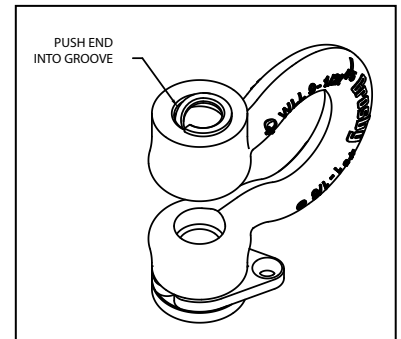

Figure 3
3. Rest the new retaining ring on the shackle ear over the bolt hole. Verify the chamfer on the ID of the retaining ring is face up. Push up. Push one end of the retaining ring into the bolt hole and seat into the groove. (See Figure 3)